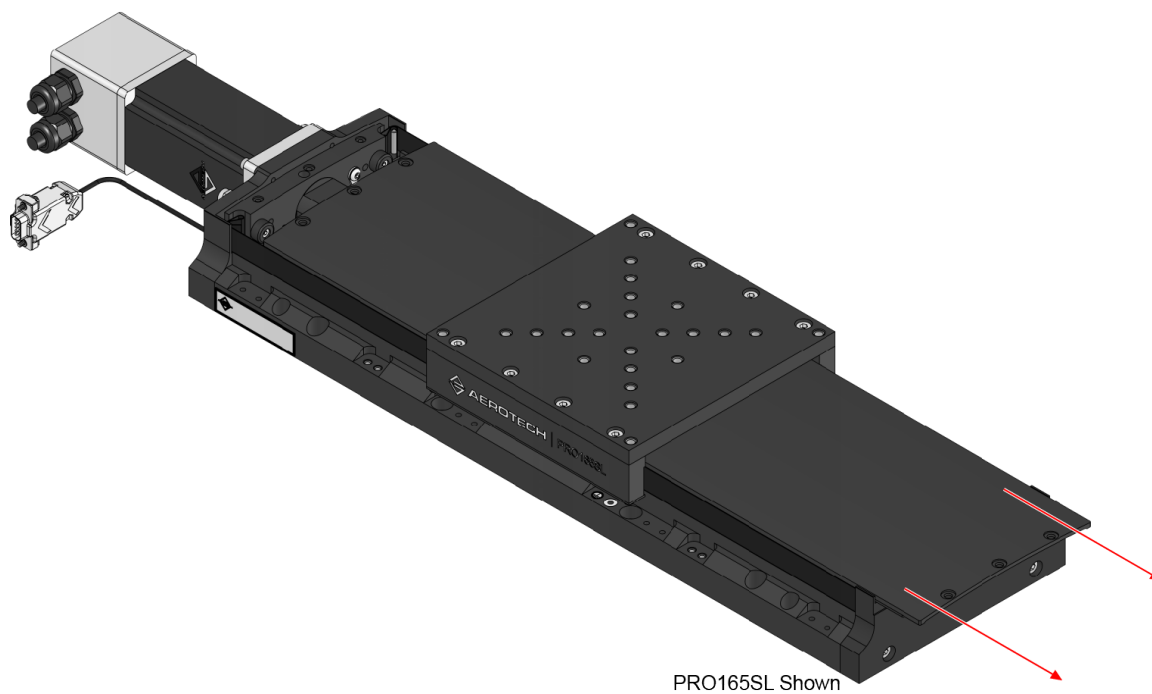

Figure 4-3: Hardcover Removal Procedure (Step 4)
4. Carefully slide the hardcover away from the stage (Figure 4-3). This can be done without removing the table.